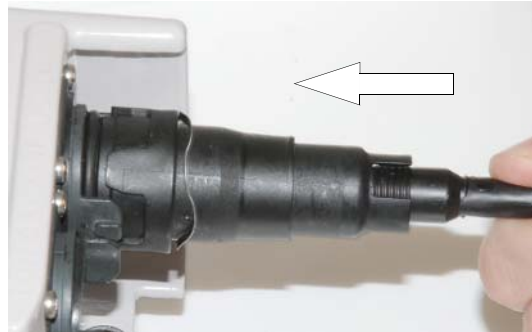

Figure 9
4. Slide the inner housing and ground shield (if present) over the cable and overmolding. Refer to Figure 9.